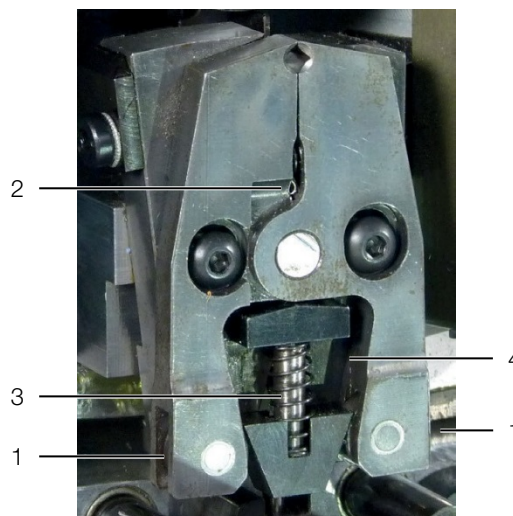

Fig. 21: Crimp tool
- Check whether the rollers (fig. 21, item 1) on the crimp tool can move freely.
- Check whether the rollers (fig. 21, item 2) on the ferrule-holding tongs can move freely.
- Oil the guide pin (fig. 21, item 3) of the ferrule-holding unit.
- Oil the lateral running surfaces (fig. 21, item 4) of the ferrule-holding unit.